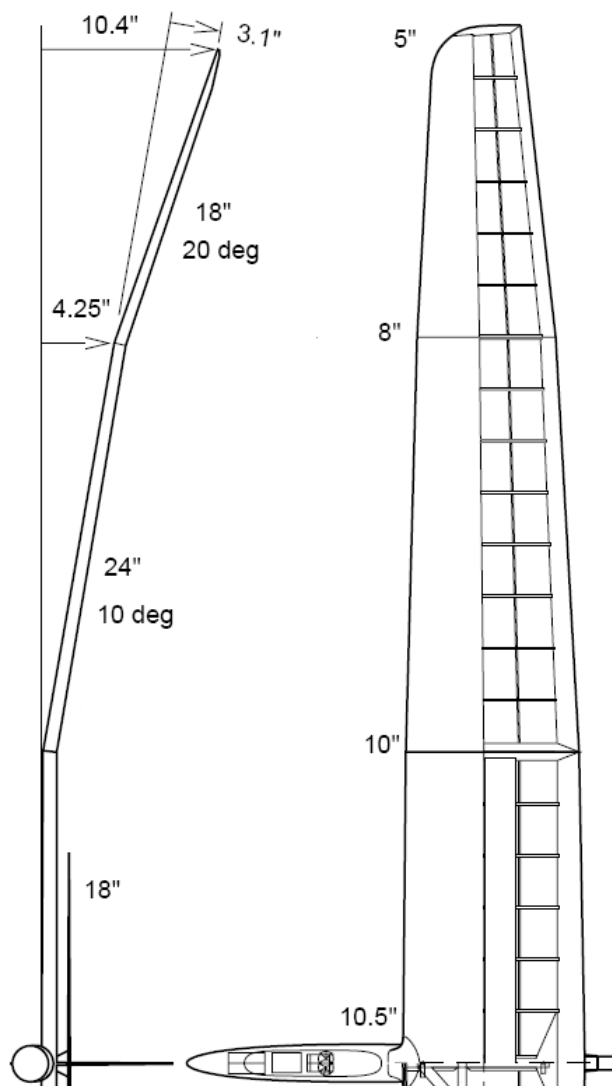

Figure 3
In the Bubble Dancer (BD) plans, see Figure 3, there are three panels, so we need to make sure that zeros are entered in the fourth panel section.